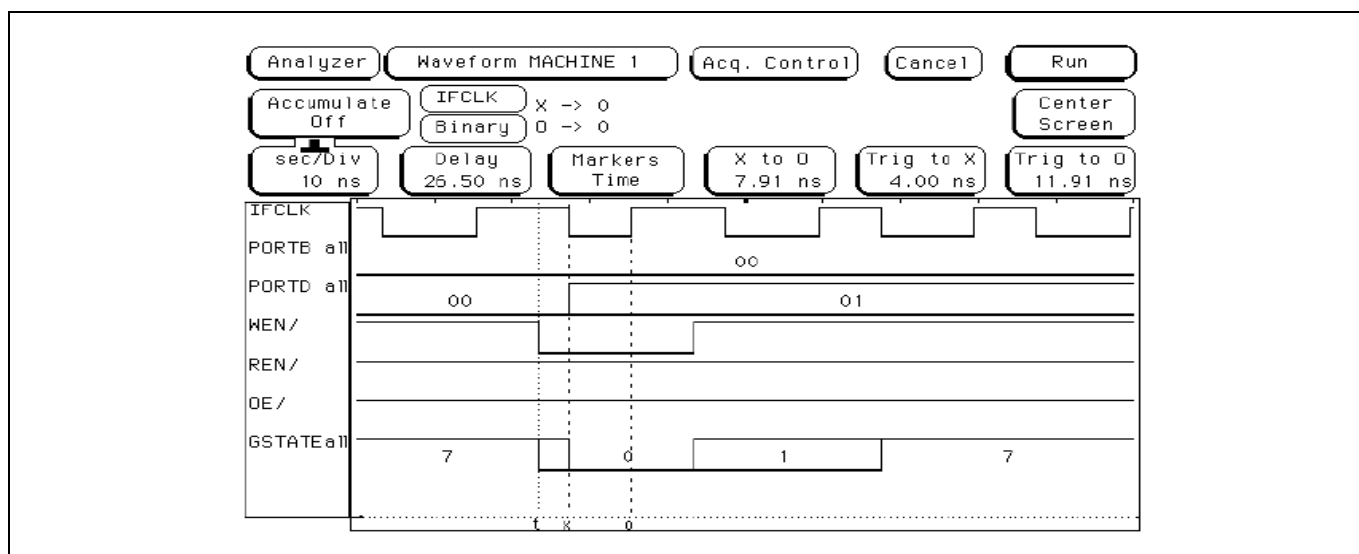

Figure 55 Single-Word Write Waveforms
Figure 55 shows the timing signals generated by the GPIF engine for the single-word write waveform as defined by GPIF Designer. All the signals are presented here, including GSTATE [2:0], which displays the states the GPIF engine cycles through as it performs the single-word write transaction.
- A sampling rate of 4 ns gives you the resolution shown in the waveform in Figure 55.